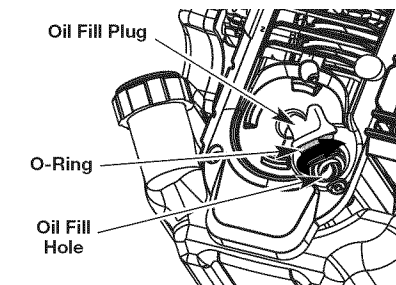

Fig. 7
3. Remove the oil fill plug from the crankcase (Fig. 7).